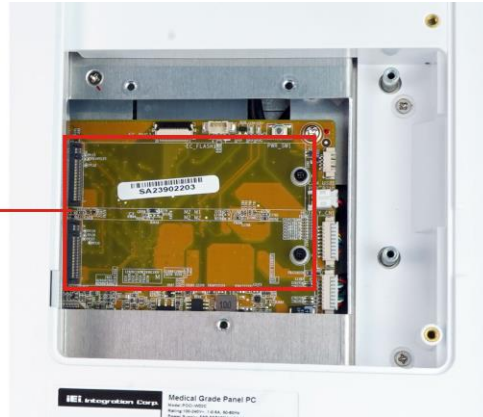

Figure 3-3: M.2 Slot Locations
Step 4: Locate the M.2 M-key slot (**Figure 3-3**). Remove the on-board retention screw.